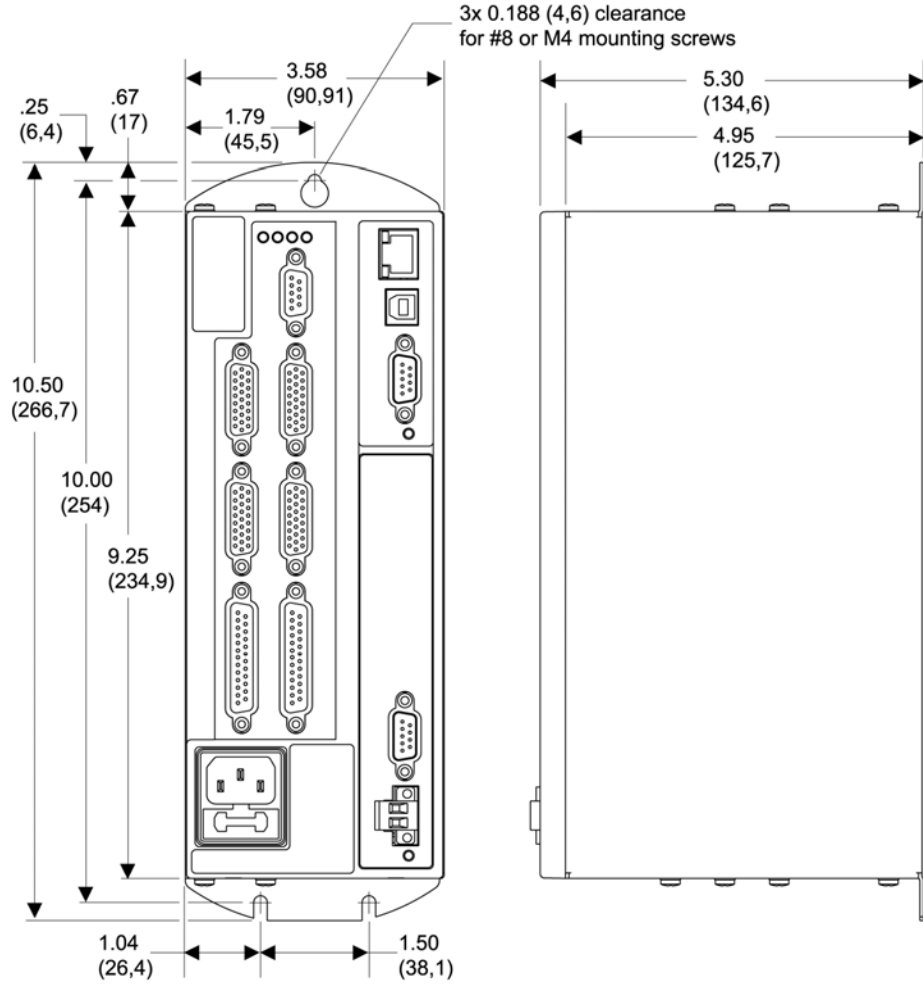
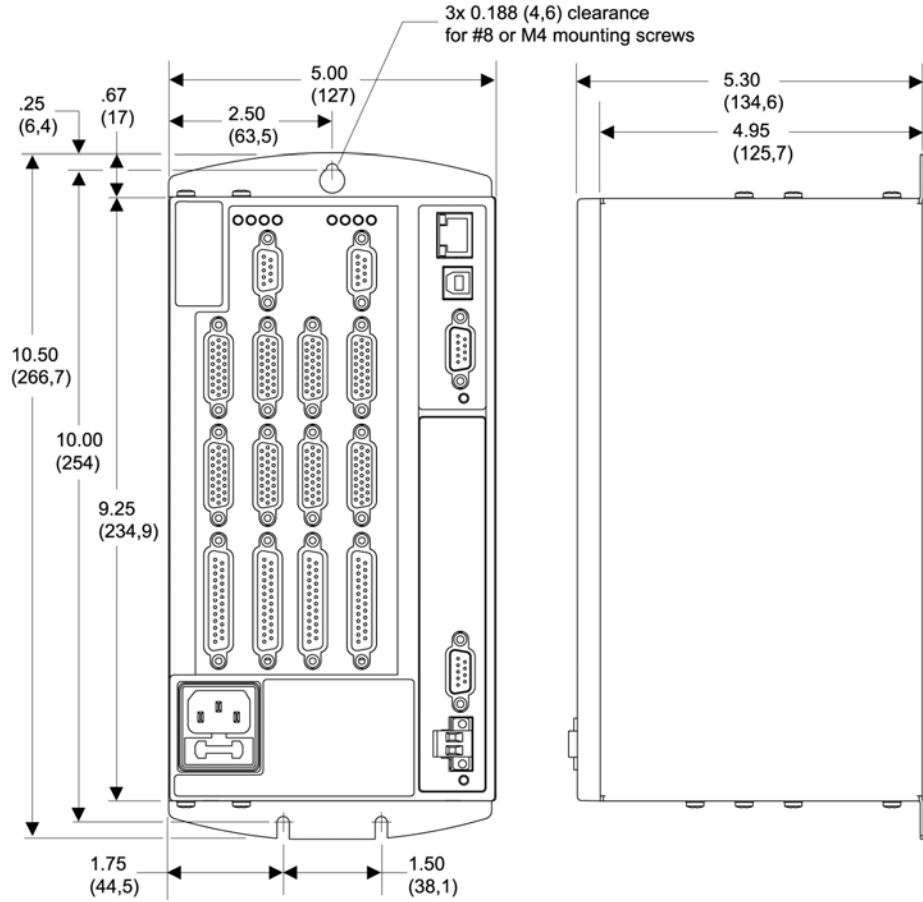
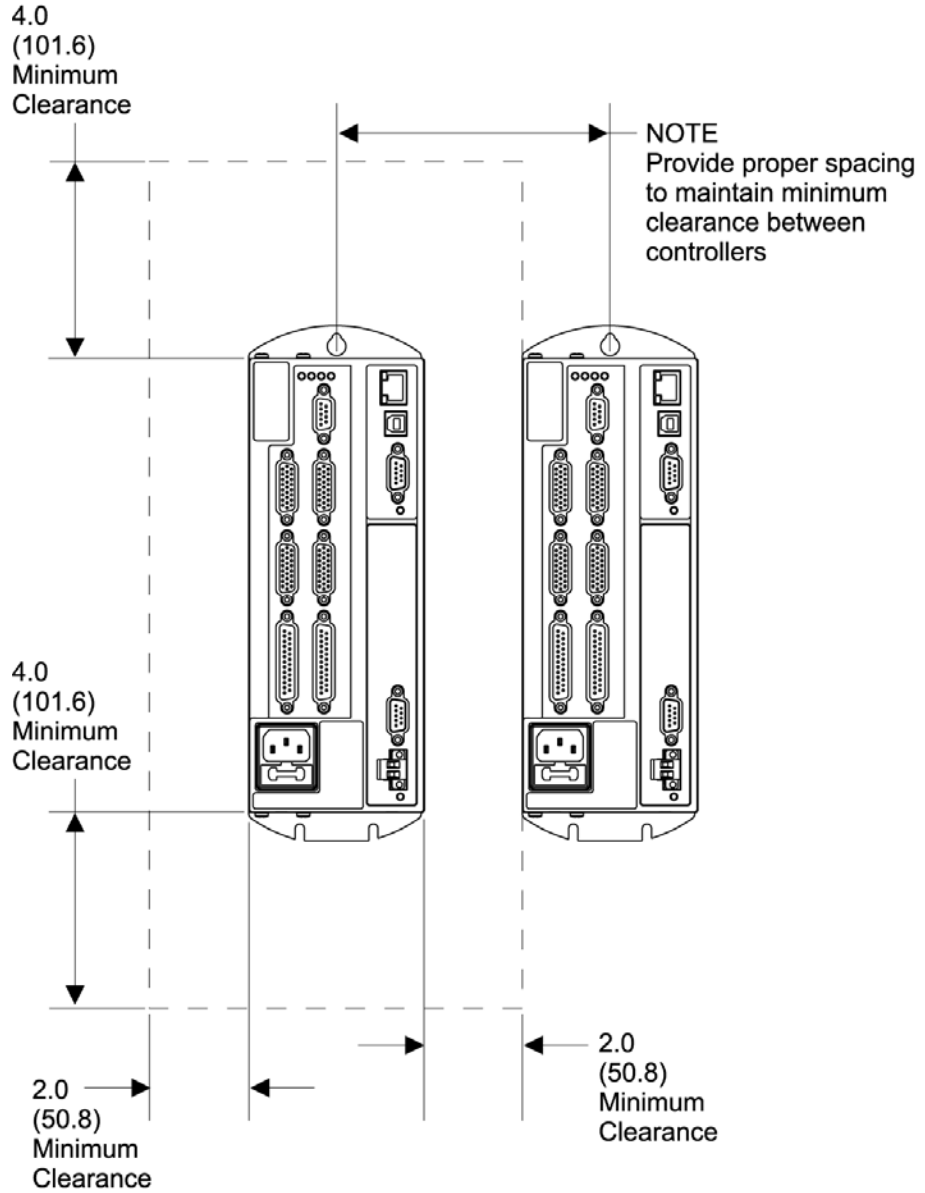
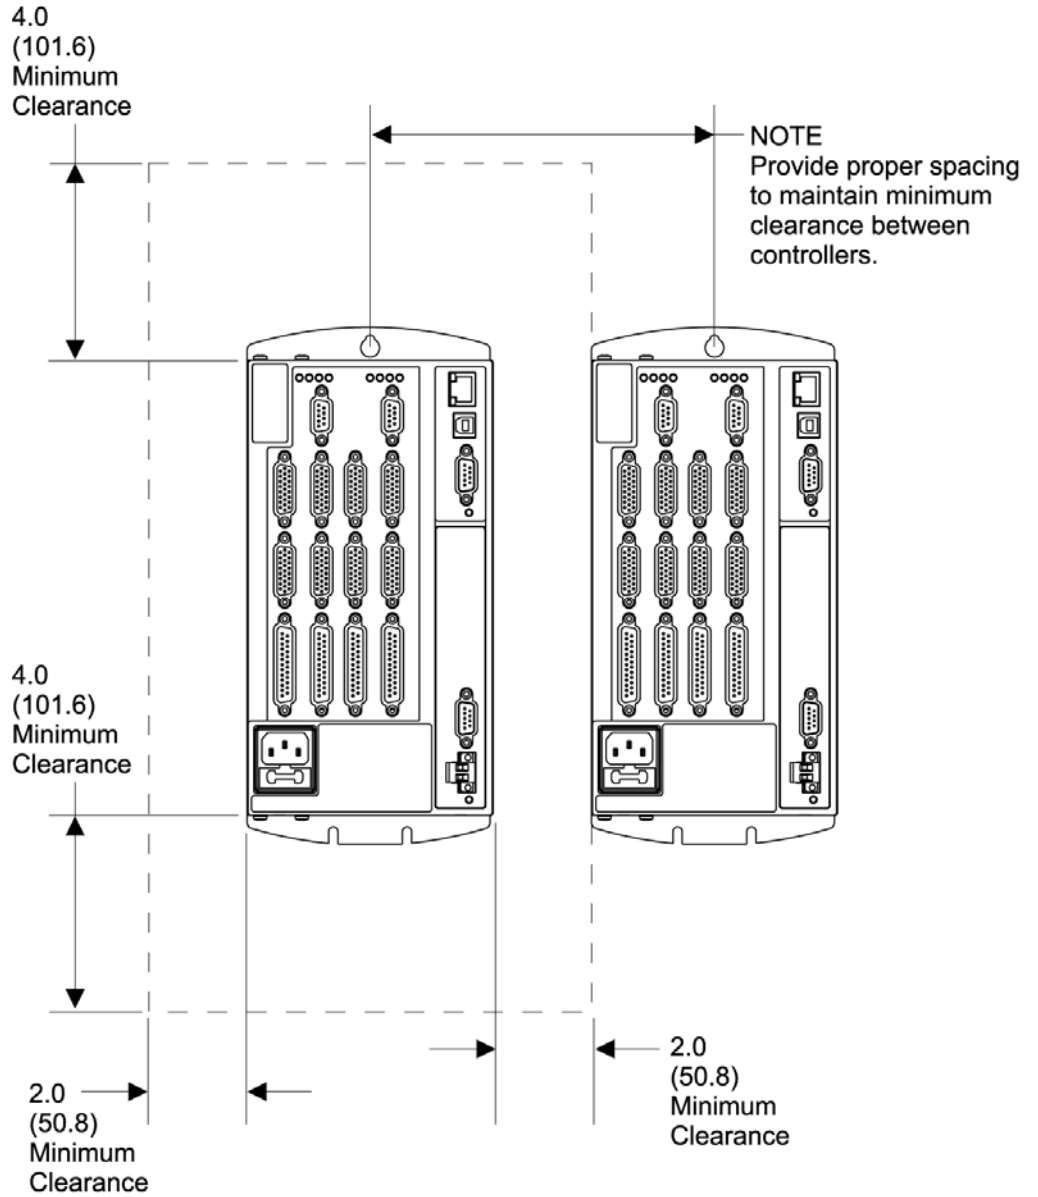

Figure 22 Mounting Specifications for ACR9000 and ACR9030 2/4 Axis Configuration
Figure 23 Mounting Specifications for ACR9000 and ACR9030 6/8 Axis Configuration
Figure 24 Mounting Clearance for ACR9000 and ACR9030 2/4 Axis Configuration
Figure 25 Mounting Clearance for ACR9000 and ACR9030 6/8 Axis Configuration
Mount the ACR90x0 Stand-Alone Controller before making any electrical connections or applying power. The figures on the following pages illustrate mounting specifications for the 2/4 Axis Configuration and the 6/8 Axis Configuration of the controller. Figure 22 and Figure 23 on pages 66 and 67 provide the measurements. Figure 24 and Figure 25 on pages 68 and 69 show the clearance requirements. Use the following guidelines for mounting the controller.
- Mount it on an **unpainted metal surface** (preferably zinc-plated), using three No. 8 or M4 mounting screws. For mounting measurements, see Figure 22 on page 66 and Figure 23 on page 67.
- For proper cooling, mount the controller vertically and with required clearance. (See Table 4 on page 23 for cooling requirements. Figure 24 and Figure 25 on pages 68 and 69 illustrate mounting clearance requirements.)